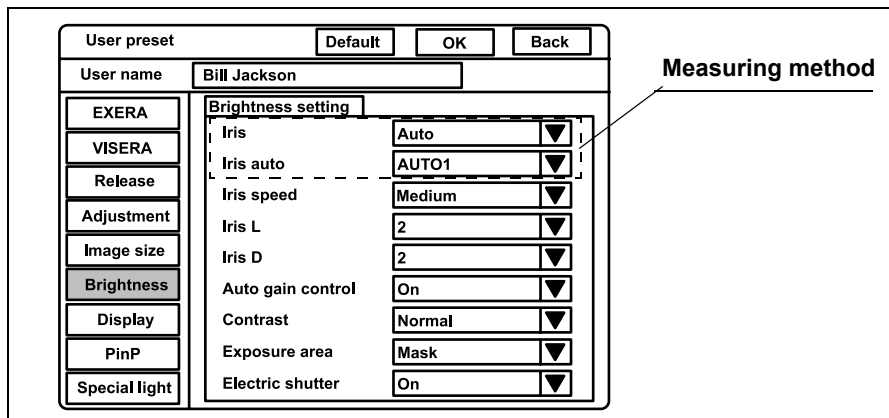

Figure 9.25
1. Click “Brightness” on the system setup menu. The “Brightness setting” appears on the right side of the window (see Figure 9.25).
2. Click “▼” of “Iris” (see Figure 9.25). The measuring methods appear in the pull-down menu.
4. Click “▼” of “Iris auto” (see Figure 9.25). The measuring methods of “Auto” appear in the pull-down menu.